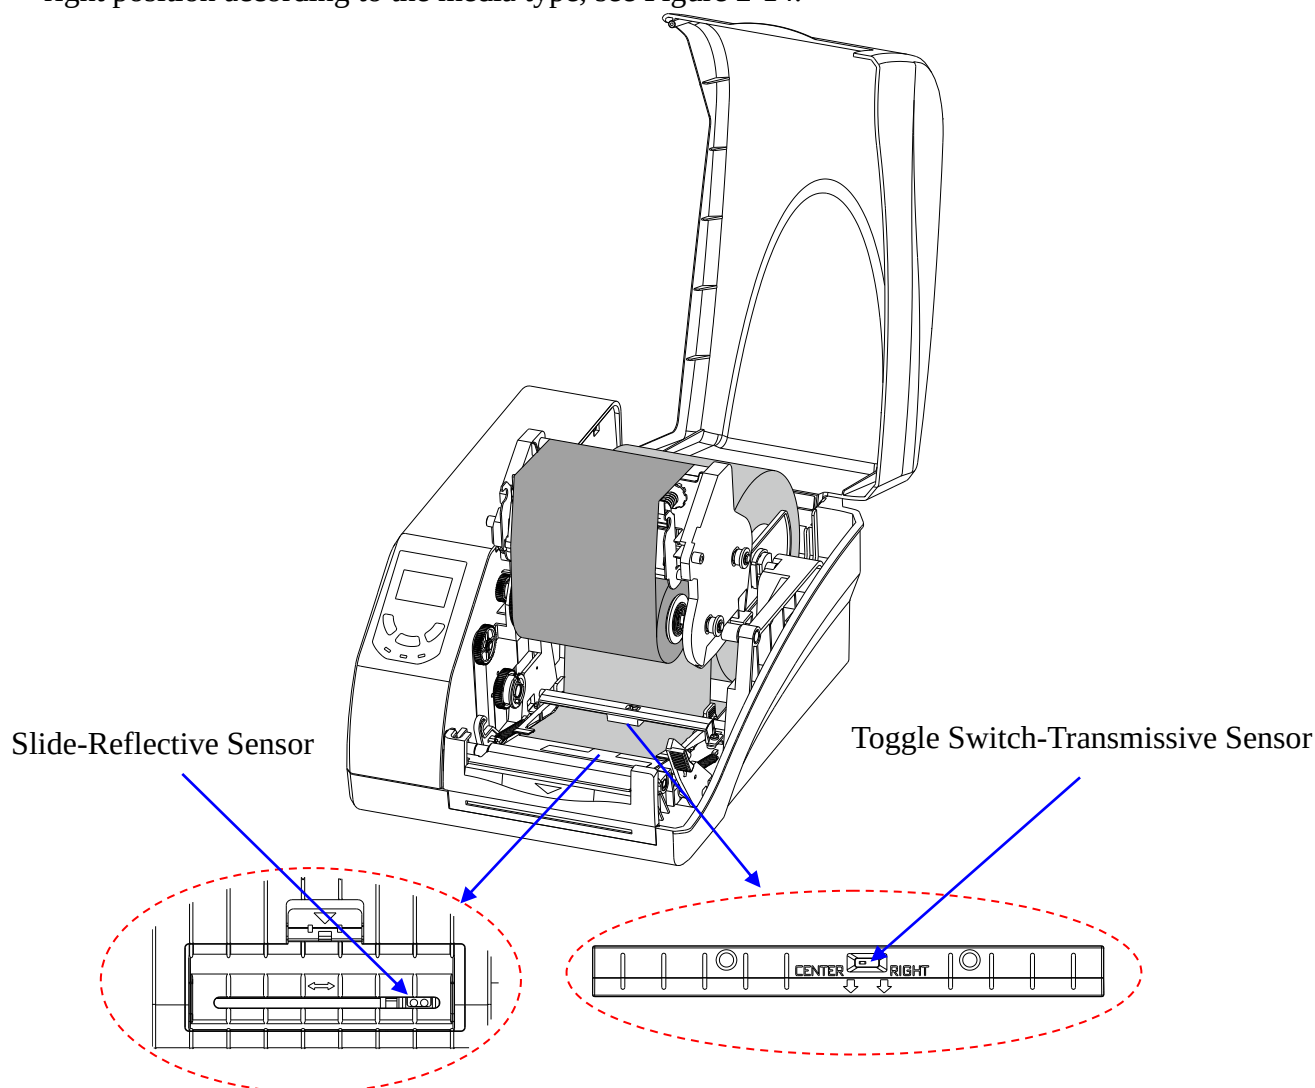

Figure 2-14 Adjust the Media Sensor Position
- To adjust the position of the Transmissive Sensor: Flip the Toggle Switch to choose center or right position according to the media type, see Figure 2-14.